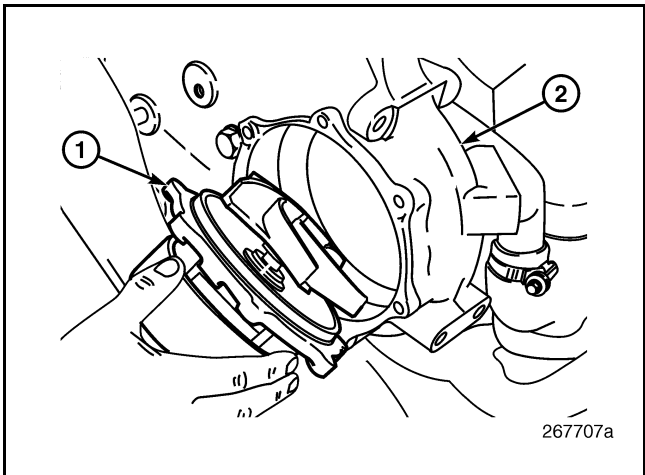

Figure 411 — Water Pump Cartridge Assembly Installation
15. Place the pump cartridge assembly in position on the pump housing (pump only fits one way due to the spacing of the seven holes) and install the seven mounting capscrews (Figure 411). Tighten the capscrews to 17 lb-ft (23 N•m).